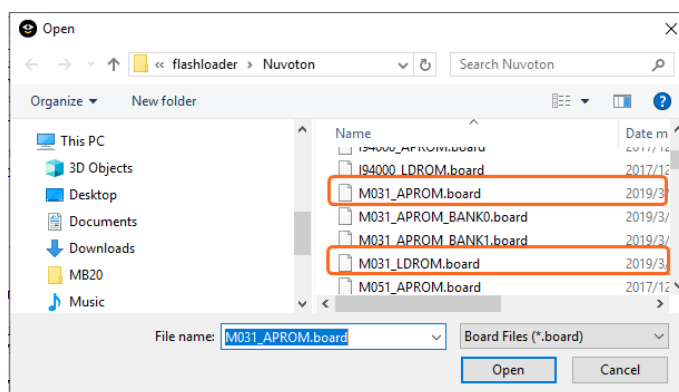

Figure 5.2-30 Select.board File for IAR EWARM
- (6) In the **Download** tab of the **Debugger** page, select the **Override default .board file** option if you want the firmware to be downloaded to APROM or LDROM, and then specify the *M031_APROM.board* or *M031_LDROM.board* file (M031 series is used in this case). If no file is founded, specify the following path “*\$TOOLKIT_DIR\$\\config\\flashloader\\Nuvoton*”, as shown in Figure 5.2-30.